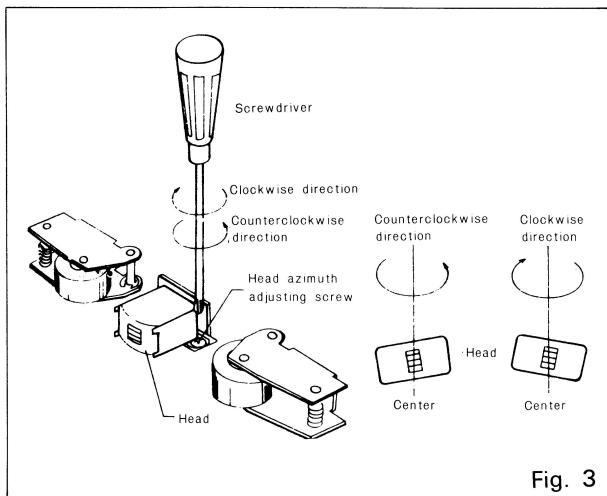

Fig. 3
- 2) Next play the test tape 6.3KHz-10VU and adjust the head azimuth by turning the head azimuth adjusting screw so that the output becomes almost maximum in both the forward and the reverse directions. (See Fig. 3)